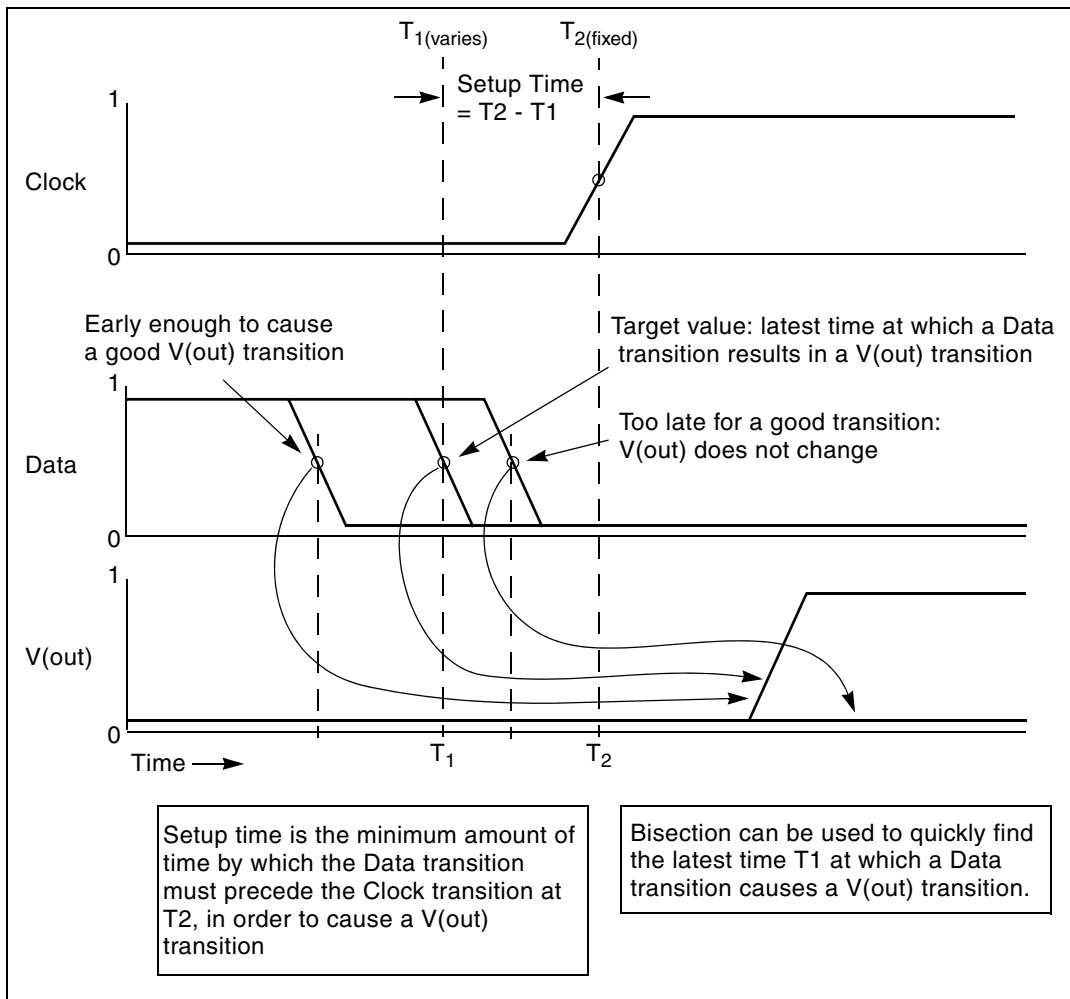

Figure 179 Determining Setup Time with Bisection Violation Analysis
Figure 179 on page 937 shows a typical analysis of setup-time constraints. Clock and data input waveforms drive a cell. Two input transitions (rise and fall) occur at times T_1 and T_2 . The result is an output transition, when $V(\text{out})$ changes from low to high. The following relationship between the $T_1(\text{data})$ and $T_2(\text{clock})$ times must be true for the $V(\text{out})$ transition to occur: $T_2 > (T_1 + \text{setup time})$.
- Automatically varying the input parameter (T_1 in Figure 179 on page 937) to find the value for which the transition barely occurs.
Figure 180 on page 944 shows an example of the binary search process that the bisection algorithm uses. This example is the pass/fail type, and is appropriate for a setup-time analysis that tests for the presence of an output transition. In the example depicted in Figure 179 on page 937 note that:
4. The bisection algorithm performs tests for each specified boundary value to determine the direction in which to pursue the target value, after the first bisection. In this example shown in Figure 179 on page 937, the upper boundary has a pass value and the lower boundary has a fail value.